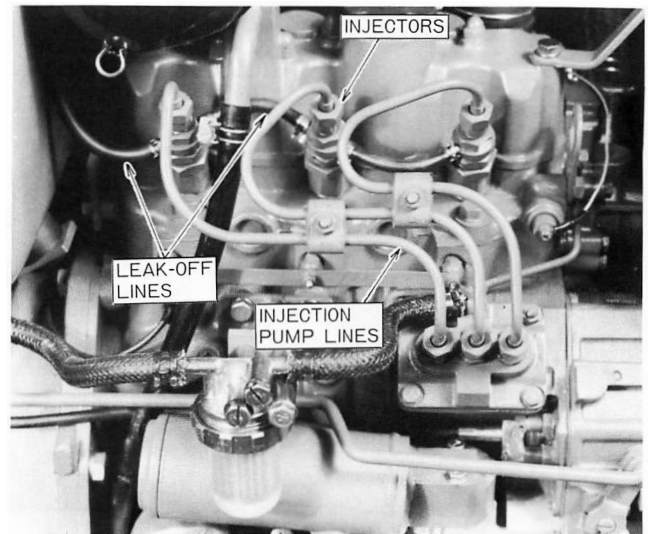

Figure 51 – Fuel Injector Leak-Off Lines
1. Clean all loose dirt from around the injectors and lines. Disconnect the leak-off lines from the injectors, Figure 51.